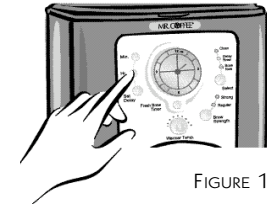

FIGURE 1
2. Press and hold the HOUR and MINUTE buttons until you reach the current time. The AM or PM indicator will light at the top of the display (Figure 1 and 2).